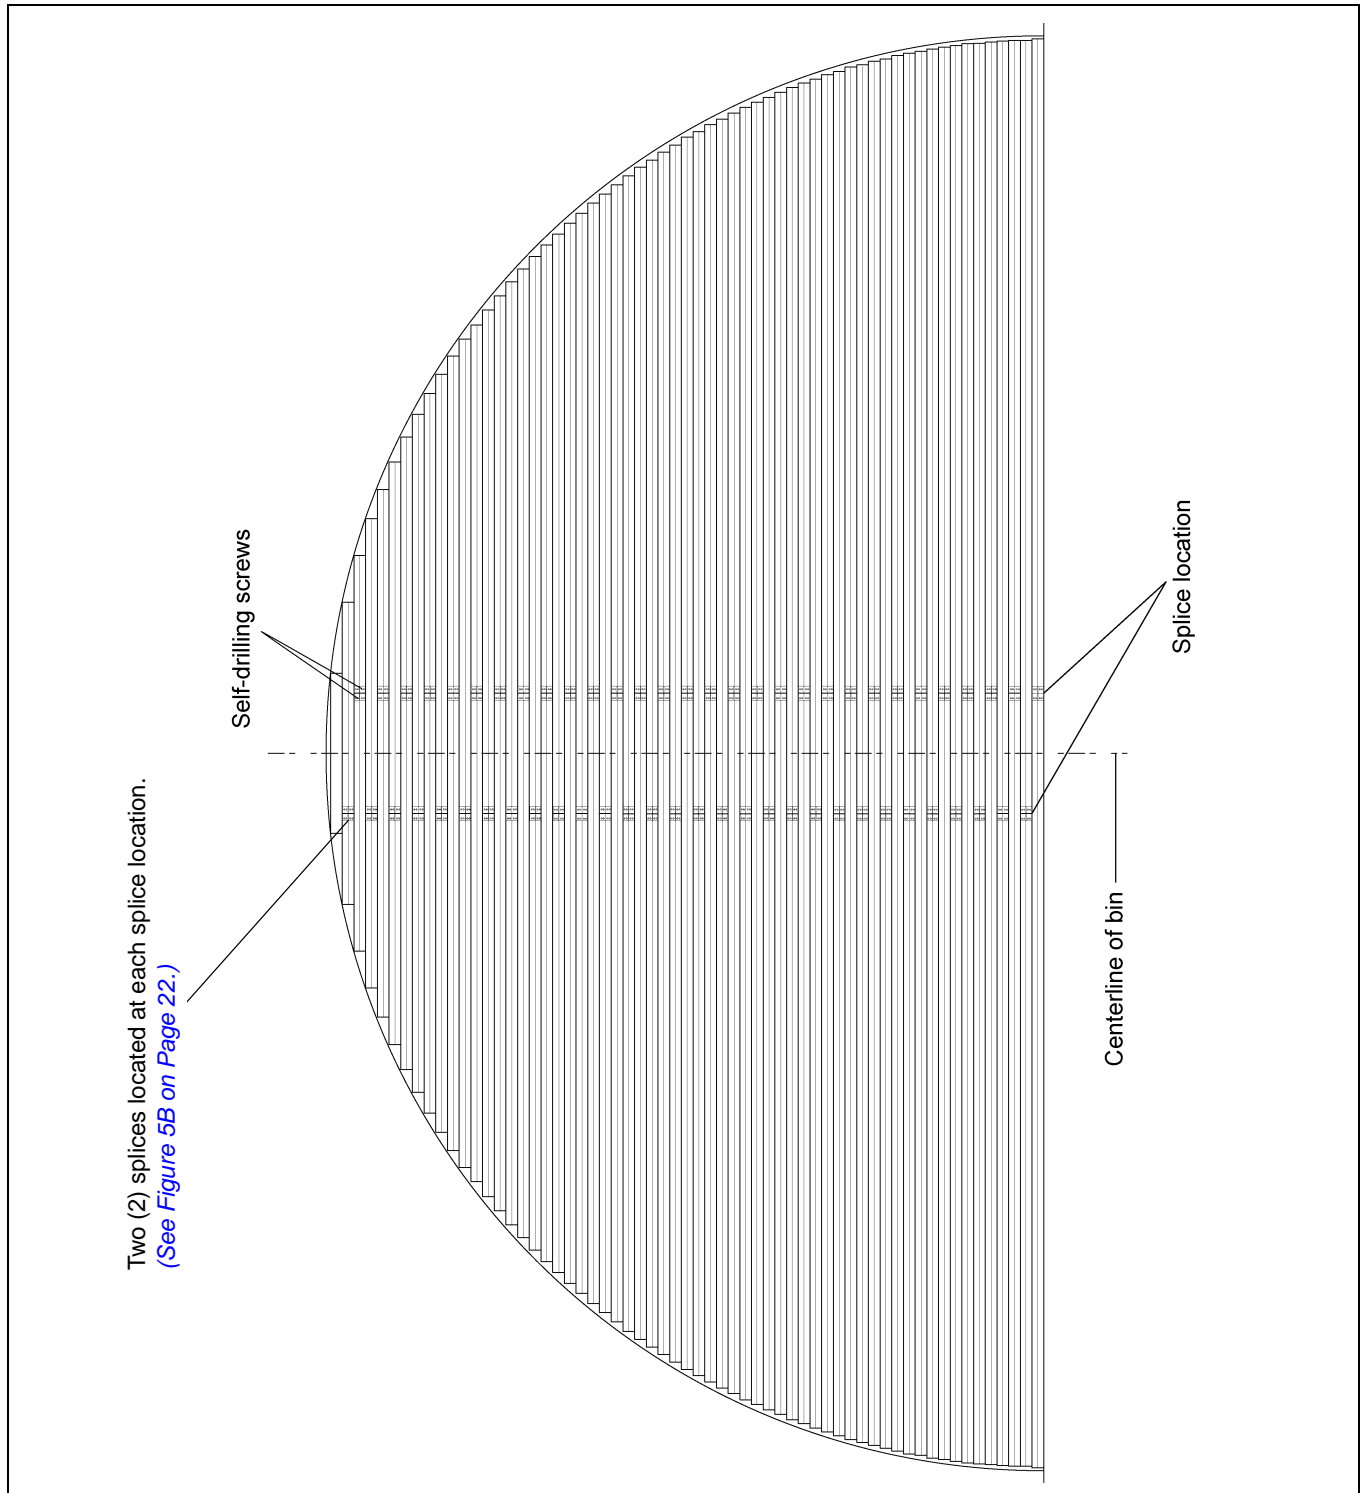
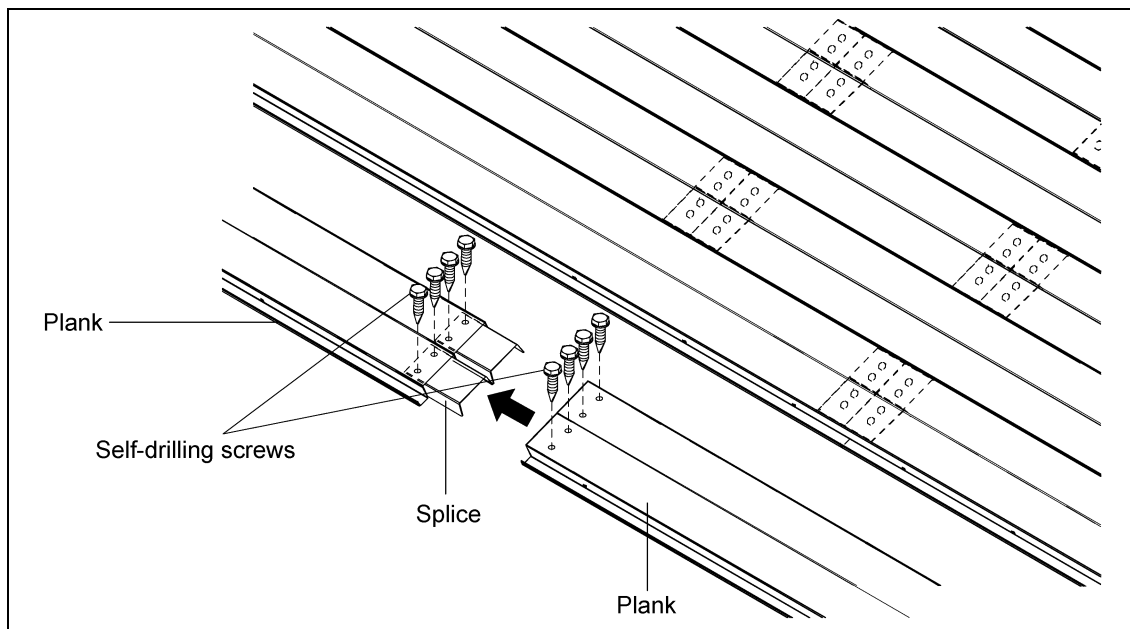
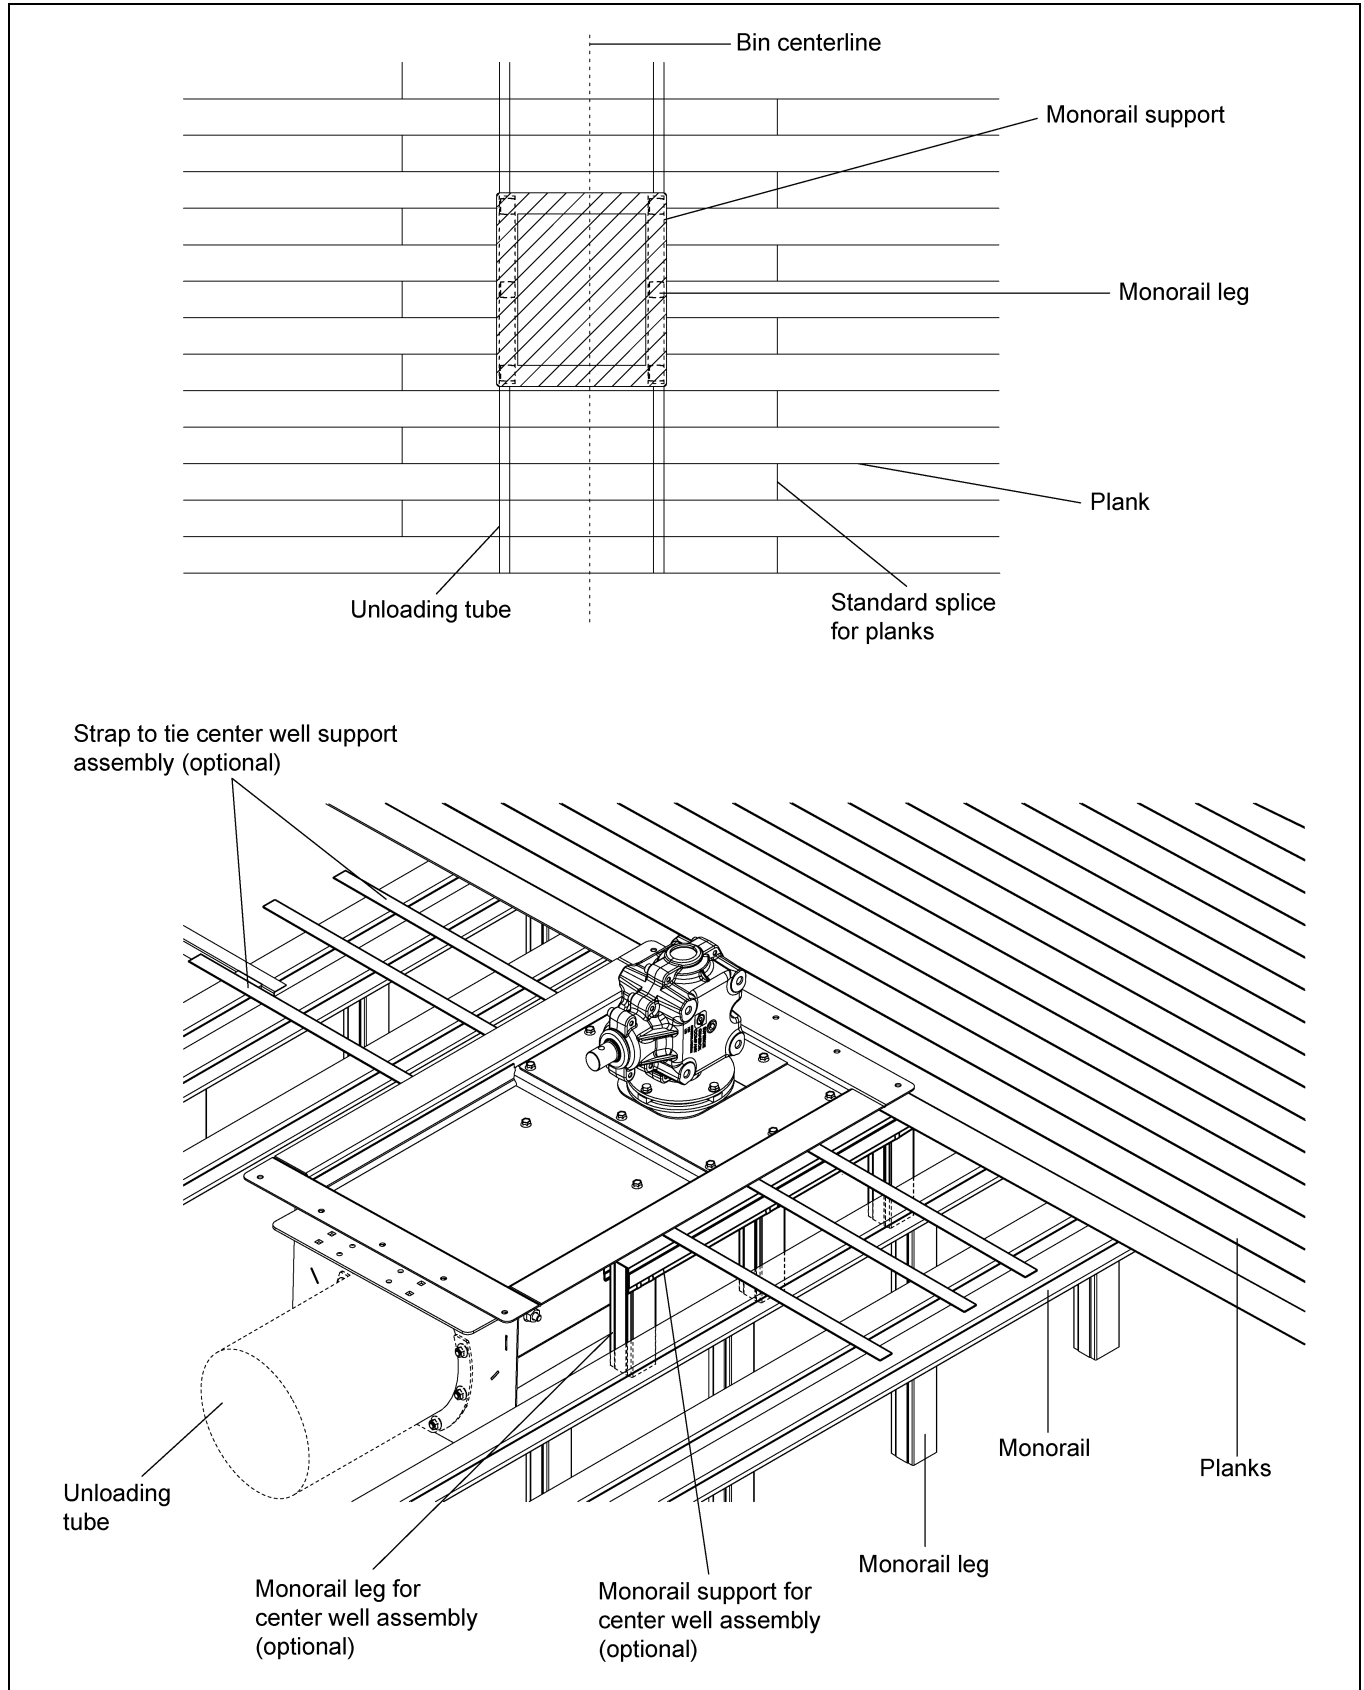

Figure 5A Floor Splice Layout
Figure 5B Splice Assembly View
Figure 5F 69' Diameter Bin Center Well Position
NOTE: Some tie straps will be used to support center well and intermediate well assembly. (See Figure 5F on Page 24 and Figure 5G on Page 25.)
Some of the floor planks will need to be spliced together. (See Figure 5F on Page 24 and plank layout on Page 29 and plank length chart on Page 30.) Install plank length A first, then install the corresponding plank length B. Continue until floor is complete. Center and install two (2) splices (PCL-7009) at each plank splice location using self-drilling screws. Use eight (8) screws at the end of the splice for each plank, four (4) on each side. (See Figure 5A below and Figure 5B on Page 22.)